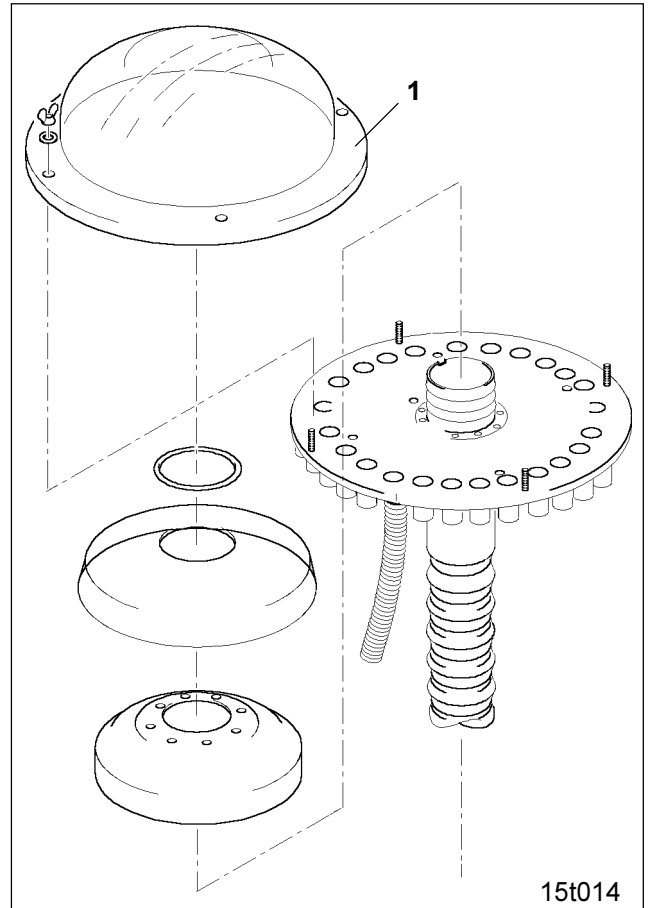

Fig. 18.4
- Remove the distributor outer hood (Fig. 18.4/1).